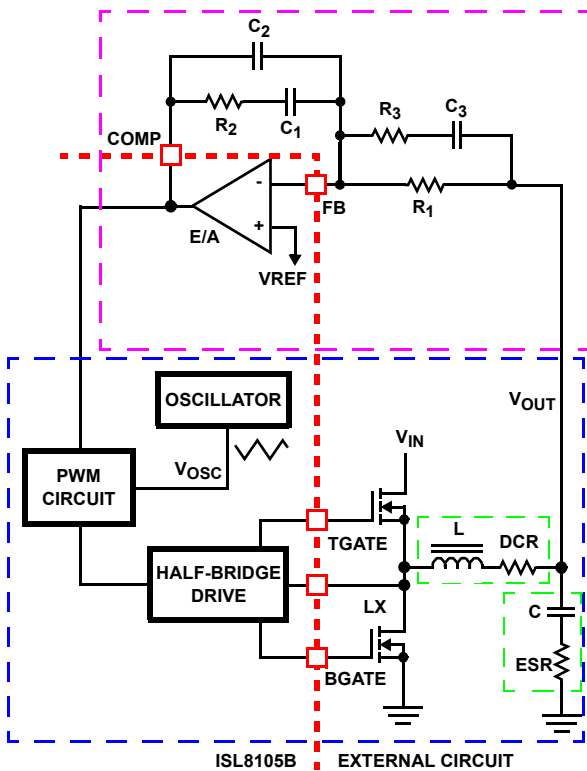

FIGURE 9. VOLTAGE-MODE BUCK CONVERTER COMPENSATION DESIGN
This section highlights the design considerations for a voltage-mode controller requiring external compensation. To address a broad range of applications, a type-3 feedback network is recommended (see Figure 9).
Figure 9 highlights the voltage-mode control loop for a synchronous-rectified buck converter, applicable to the ISL8105B circuit. The output voltage (V_{OUT}) is regulated to the reference voltage, V_{REF} , level. The error amplifier output (COMP pin voltage) is compared with the oscillator (OSC) triangle wave to provide a pulse-width modulated wave with an amplitude of V_{IN} at the LX node. The PWM wave is smoothed by the output filter (L and C). The output filter capacitor bank's equivalent series resistance is represented by the series resistor ESR.
The compensation network consists of the error amplifier (internal to the ISL8105B) and the external R_1 to R_3 , C_1 to C_3 components. The goal of the compensation network is to provide a closed loop transfer function with high 0dB crossing frequency (F_0 ; typically 0.1 to 0.3 of f_{SW}) and adequate phase margin (better than $+45^\circ$). Phase margin is the difference between the closed loop phase at F_{0dB} and $+180^\circ$. The equations that follow relate the compensation network's poles, zeros and gain to the components (R_1 , R_2 , R_3 , C_1 , C_2 , and C_3) in Figure 9. Use the following guidelines for locating the poles and zeros of the compensation network:
1. Select a value for R_1 ($1k\Omega$ to $10k\Omega$, typically). Calculate value for R_2 for desired converter bandwidth (F_0). If setting the output voltage to be equal to the reference set voltage as shown in Figure 9, the design procedure is shown in Equation 5.